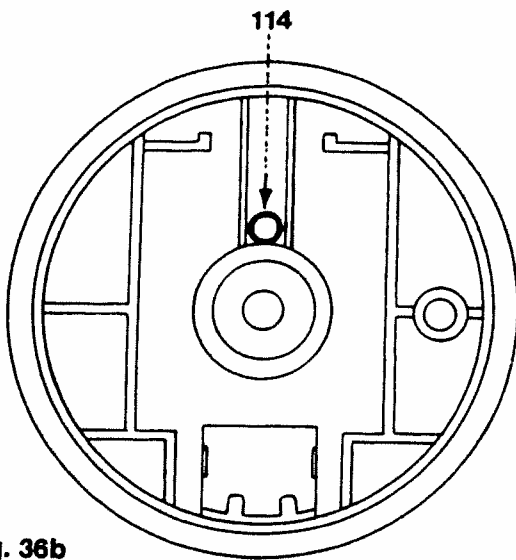

Fig. 36b
- Place pressure spring 114 onto the handwheel boss so that its rear side fits into the guide groove (fig. 36b).